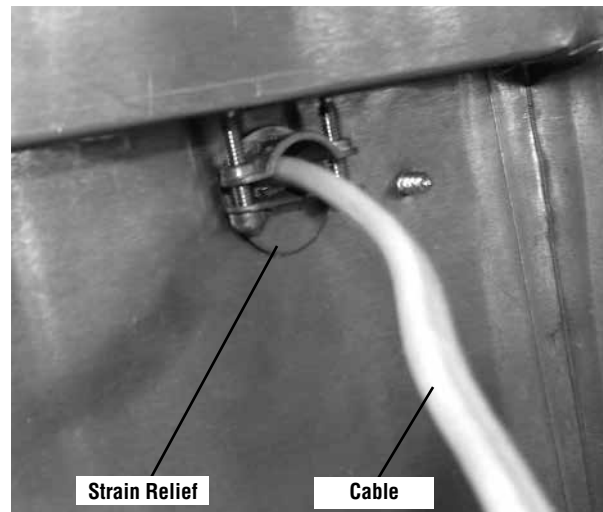

Figure 25 - Back of Termination
- Refer to *Figure 25 on Page 21* and install the electrical hardware on the ends of the cable. Male terminals on the Black and White wires, and ring terminals on the ground wire.
- Loosen the strain relief on the termination shown in **Figure 25**. Pull the pigtail in and shorten it to fit within the junction box cover.